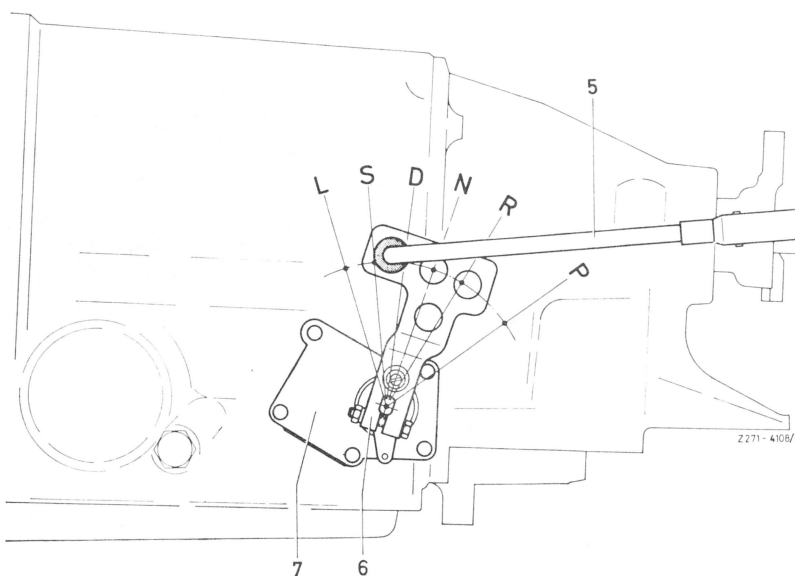

Fig. 2
Disconnect selector rod (5) on range selector lever (6). Set range selector lever (6) and selector lever (1) to „N“, making sure that approx. 1 mm play is available between the selector lever (1) and the „N“ stop on gate plate. Adjust length of selector rod (5) in such a manner that it can be attached free of stress; then tighten counternut (4) again. (Fig 2).